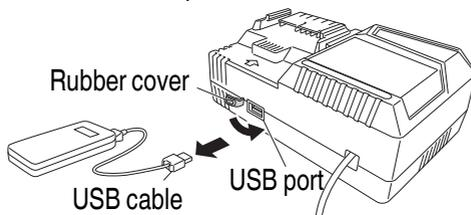

Fig. 31
- (3) When charging is completed
- Unplug the power cord from the electrical outlet. (Fig. 31)